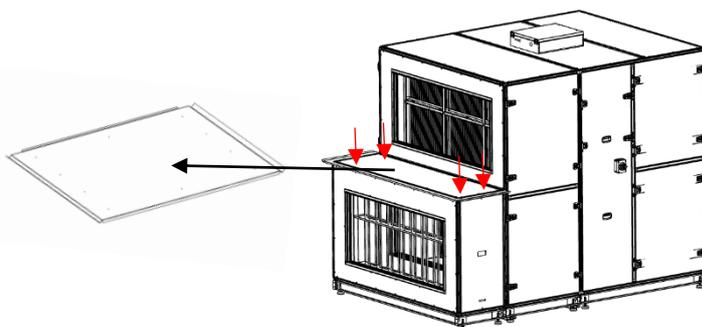

Fig. 139
- Place the weather roof on the module, and screw (4,8x19) in the all holes that as shown below. (Fig. 139)